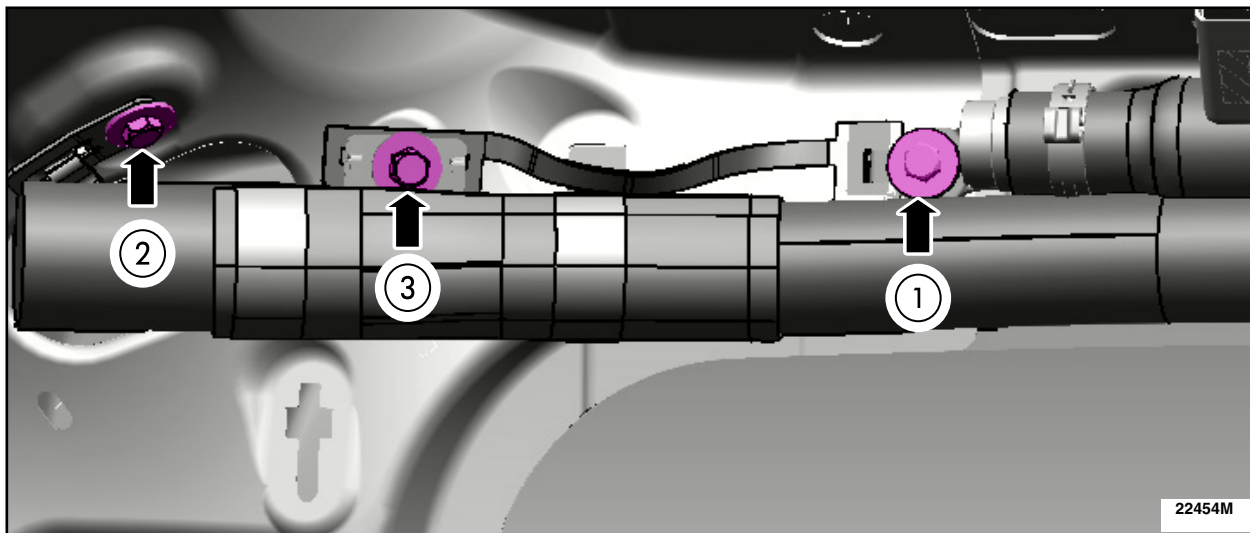

FIGURE 25
27. Install the side curtain airbag rear bolts *in the sequence shown*. See Figure 25.